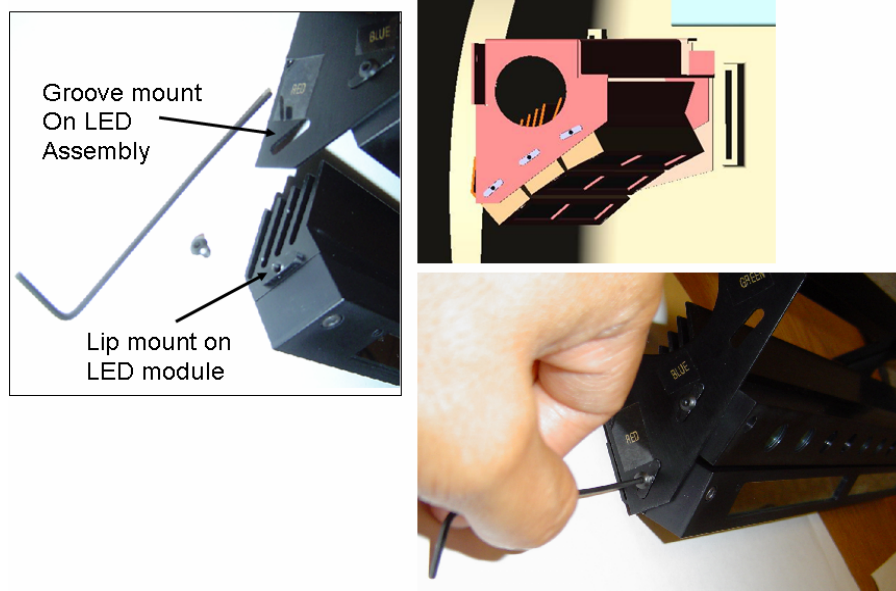

Figure 3.16A
4. The LED assembly is labeled Red, Blue, and Green to indicate the mounting positions of the LED modules. Slide the LED module in the appropriate location on the assembly. Fit the lip on the front end of the LED into the groove on the front end of the LED assembly. Use a 3/32" hex allen key to secure the front end of the LED module to the assembly (Figure 3.16A).